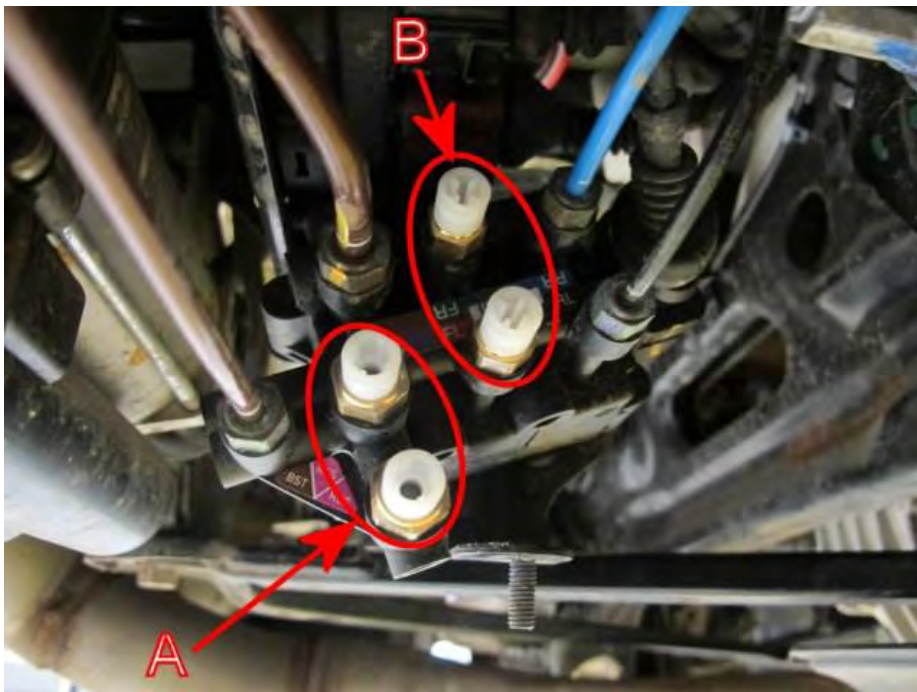

Figure 2
8) Referring to Figure 2 (Point A) - Fit replacement solenoid connectors to the solenoid block - 3 Nm **IMPORTANT:** Do not remove the white bungs until the air hoses are to be refitted